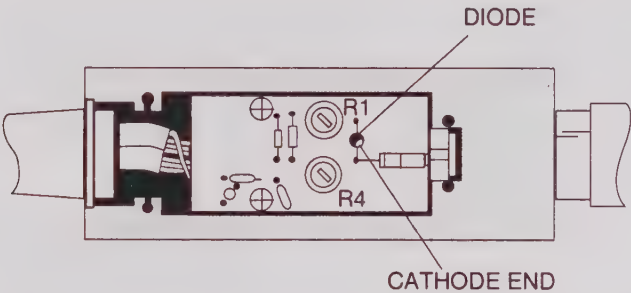

Figure A-1. Model 5400-71B75 RF Detector Housing Layout Diagram
Whenever the detector diode (or diode module) of these RF Detectors is replaced, the two potentiometers that are part of the RF detector PCB subassembly (Figures A-1 and A-4) must be readjusted. The potentiometer readjustment is done after the defective diode is removed, but before the replacement diode is installed.
Unplug the defective diode (Figure A-1) from the PCB subassembly and remove.
- Step 11** Orient the cathode end (white dot) of the replacement diode as shown in Figure A-1 (white dot toward centerline of the detector PCB subassembly). Insert the diode into the socket of the PCB subassembly.